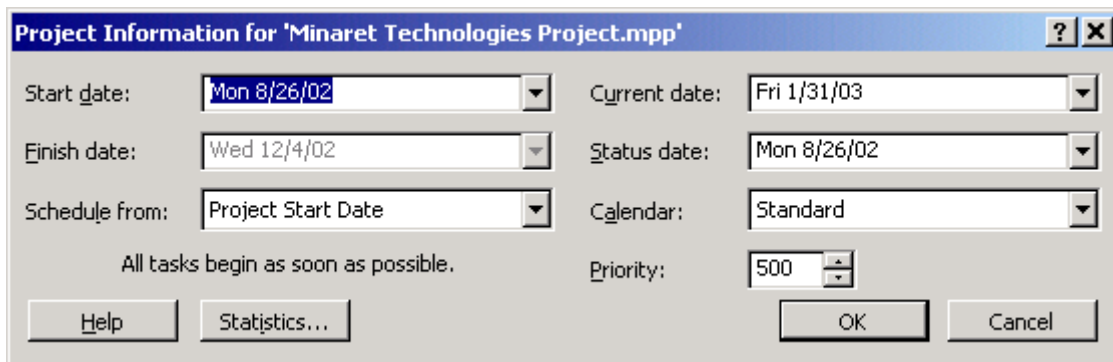

Figure 4 - Project Information Dialog Box
- Select Project on the menu bar and then click "Project Information..." (Figure 4).